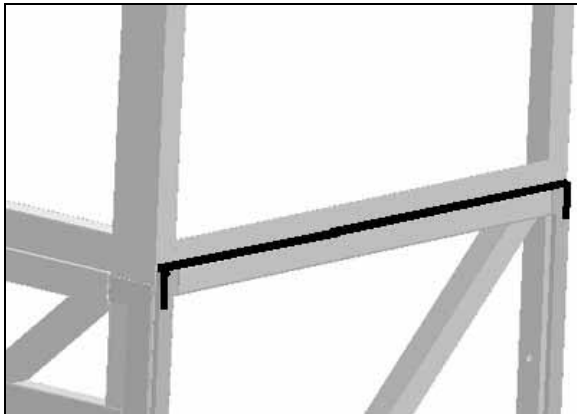

FIGURE 44 : SIDE PANEL INSTALLATION – SIKA 221 OR 252 APPLICATION ON STRUCTURE
5. Inspect the Sika bead shown in FIGURE 44. If it is damaged, remove adhesive residue and apply a new 5mm diameter bead of Sika 221 or 252;